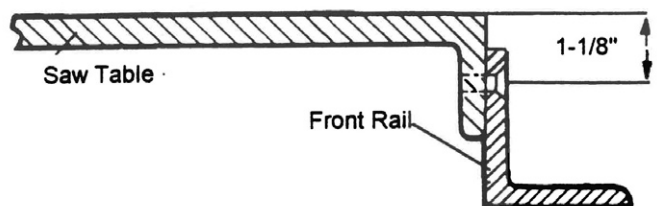

Figure 5
6. Measure from the left-hand mark down from the tabletop 1-1/8" (29mm) and mark. See Fig. 5.